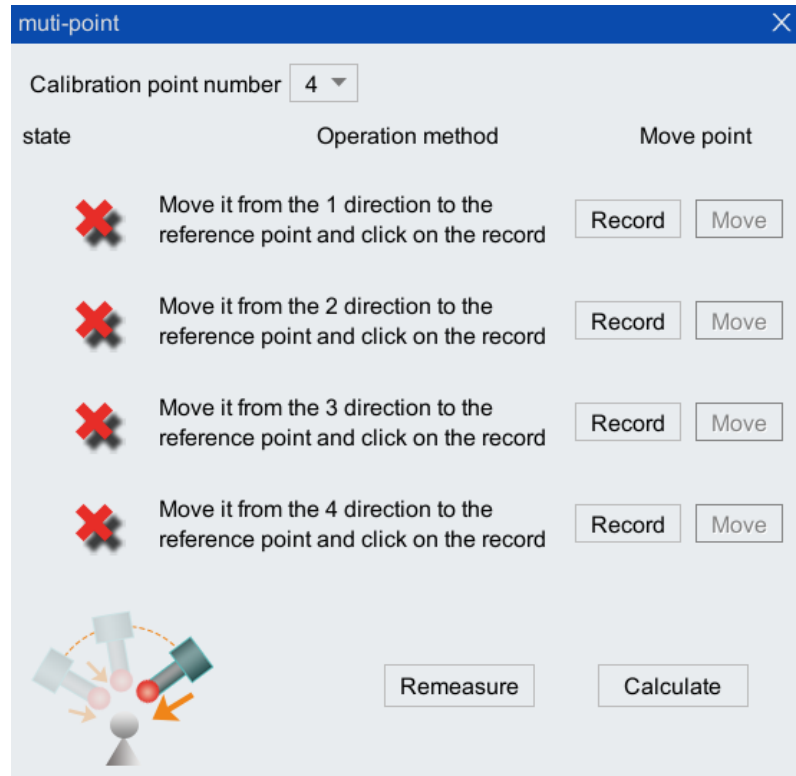

Figure 5-2 Multi-point calibration
- Step 2. Click to select the row where the tool coordinate system tool0 is located, and click <Multi-point method> to pop up the interface as shown in Figure 5-2. Calibrate the direction of the coordinate system XYZ.